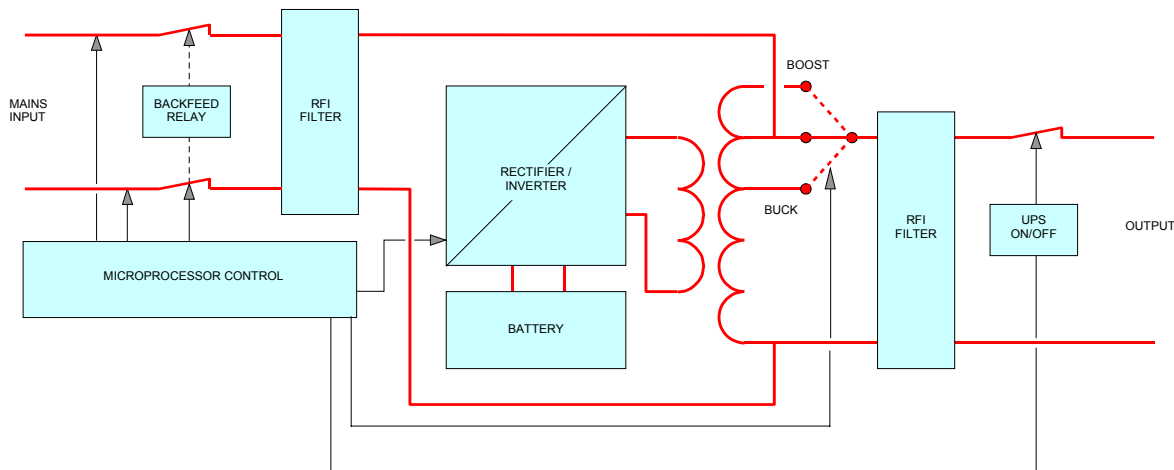

Fig. 1 Block diagram Digital Energy™ ML Series UPS
The **Digital Energy™ ML Series UPS** stores electric energy in batteries housed in the unit. This allows the UPS to supply output power even when the incoming mains power is cut off completely. Energy is stored as Direct Current (DC), while input and output energy must be Alternating Current (AC). Therefore the UPS contains a rectifier (to convert from AC to DC) and an inverter (to change energy from DC to AC). (See fig.1)